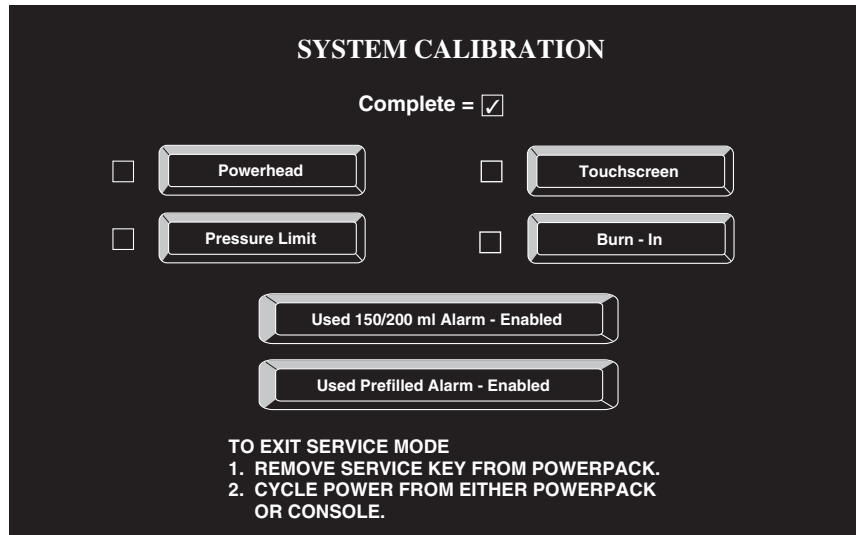

Figure 5-6-1. Service Mode System Calibration Screen
3. Return power to the injector by toggling the main breaker and turning the console ON. The screen in Figure 5-6-1 will be displayed.